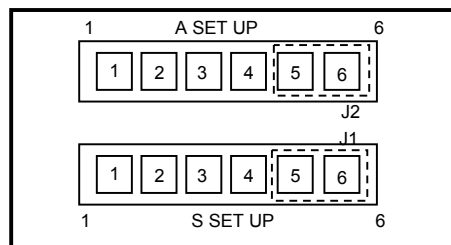

Figure 21
11. Position the jumpers on pins 5 and 6 of the **J1 (S SET UP)** and **J2 (A SET UP)** headers. *(Refer to figure 21).*